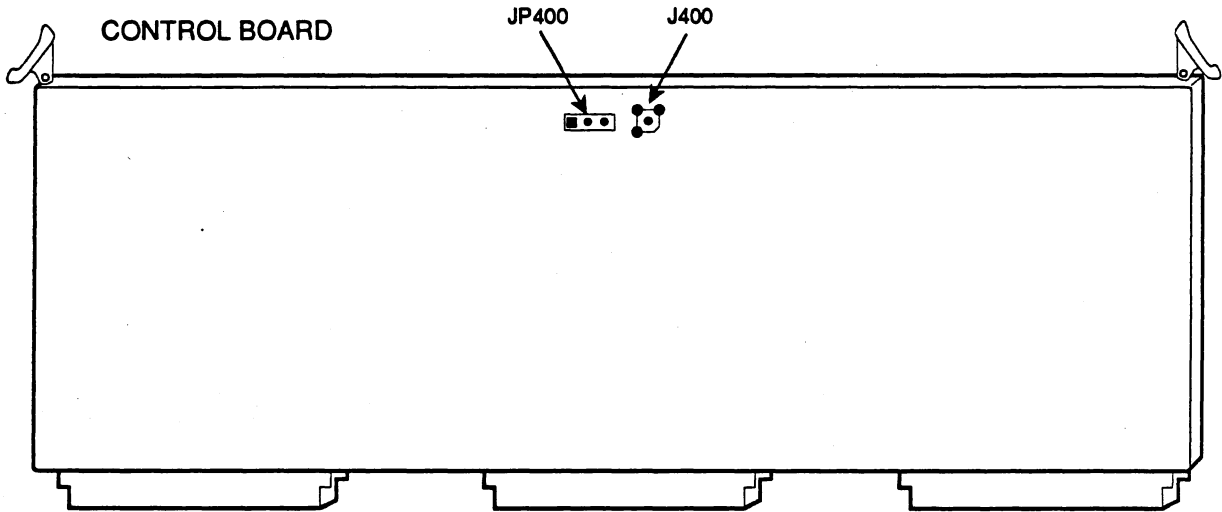

Figure 5-31: Read Gun Board Video Mode Adjustment Points
2. Connect the cable from J26 (X-scan) to the pins for J28 (Y-scan), reversing pin 1 and pin 2 (solid color wire on the bottom). Pin 1 is always marked with a square in Figure 5-31.
11. Replace the jumper on J804 on pins 1-2 (S) for the SCD5000 and on pins 2-3 (L) for the SCD1000.